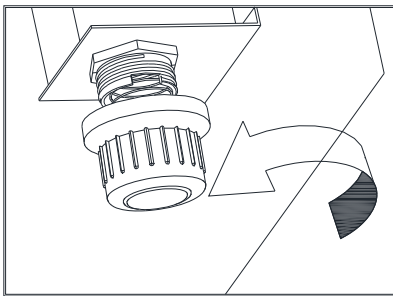
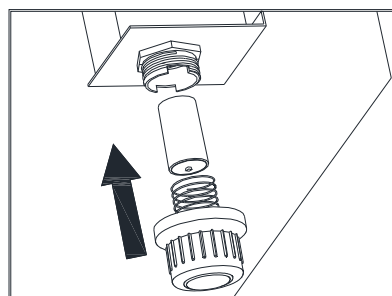
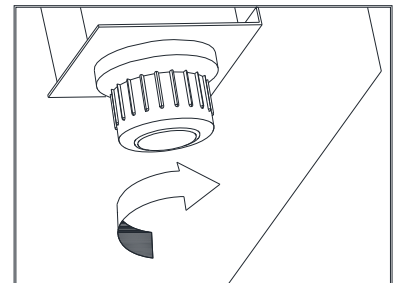

Fig 1
Fig 2
Fig 3
- 3- Unscrew the battery box as shown in Fig 1. Insert the negative electrode side of the battery into the bottom of battery box as shown in Fig 2. Then screw the battery box as shown in Fig 3.